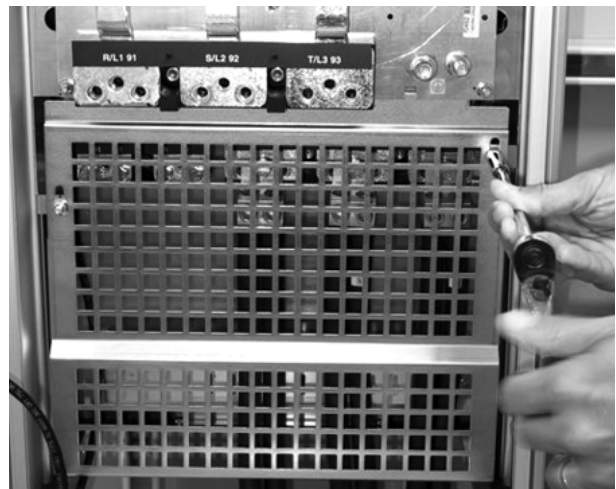

Fig. 13 Fitting the EMC metal cover
4. Fit the EMC metal cover to ensure best EMC performance before connecting the mains cable. See fig. 13.